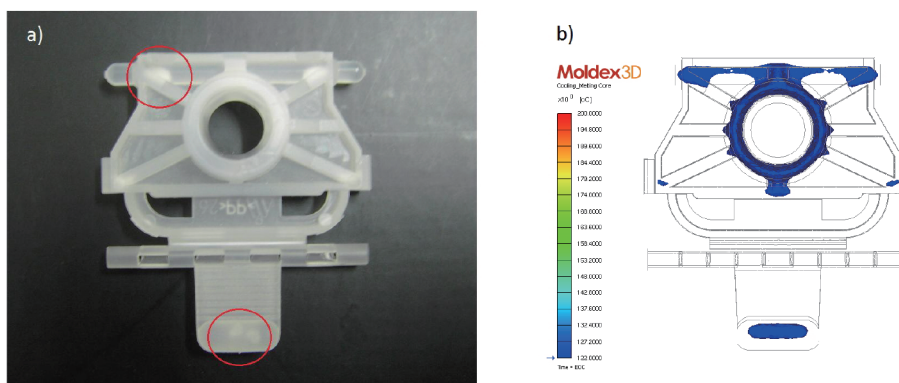

Fig.2 Inner Void location (a) vs. High Volume Shrinkage region (b)
- Voids were found near the rib region (Fig. 2)